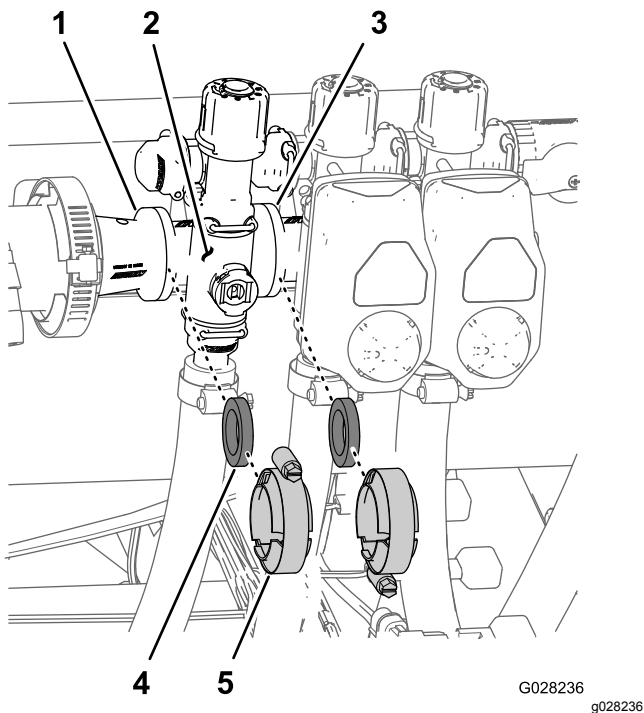

Figure 89
1. Remove clamps and gaskets that secure the manifold for the section valve (Figure 89) to the adjacent section valve (if left section valve, and the reducer coupling).